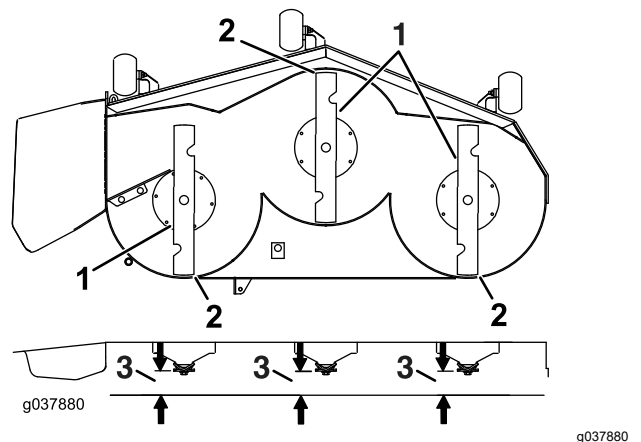

Figure 84
7. Check the front-to-rear blade level (Figure 84). Ensure the front blade tip is lower than the rear blade tip as shown in the block height and rake table. If adjustment is needed, continue with this procedure.